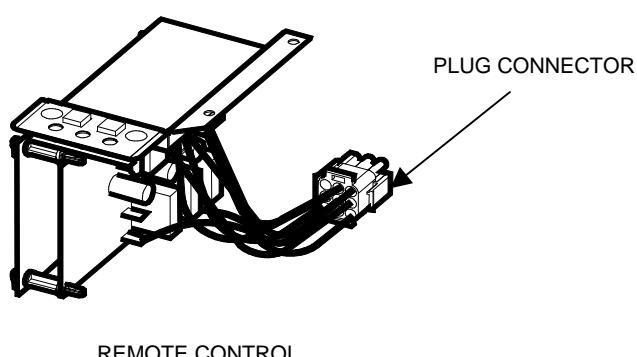

FIGURE 7
1. Locate and insert the plug connector on the remote control bracket into plug connector on the fireplace. FIGURE 7